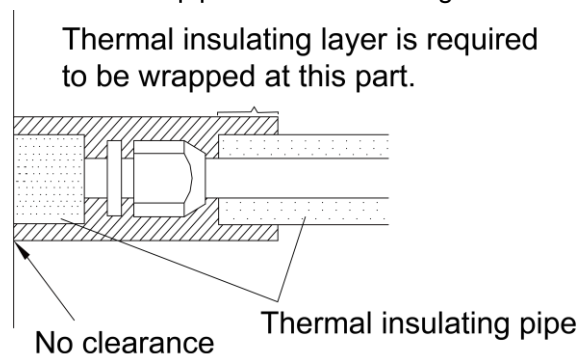

Fig.28
- 3) Joints at indoor and outdoor units should be wrapped with insulating material and leave no clearance between pipe and wall. See Fig.28.